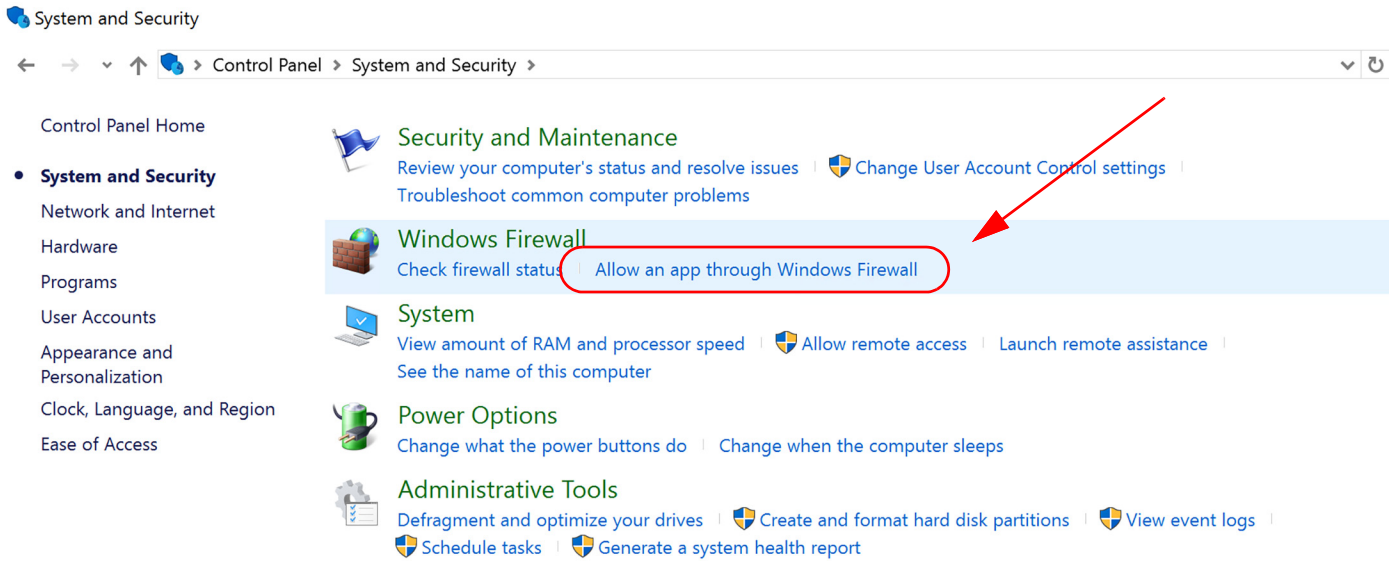

Figure 2.3: Windows Server 2016/2019: Allow an App Through Windows Firewall
3. From the Control Panel -> System and Security Screen, select "Allow an App through Windows Firewall". See Figure 2.3.